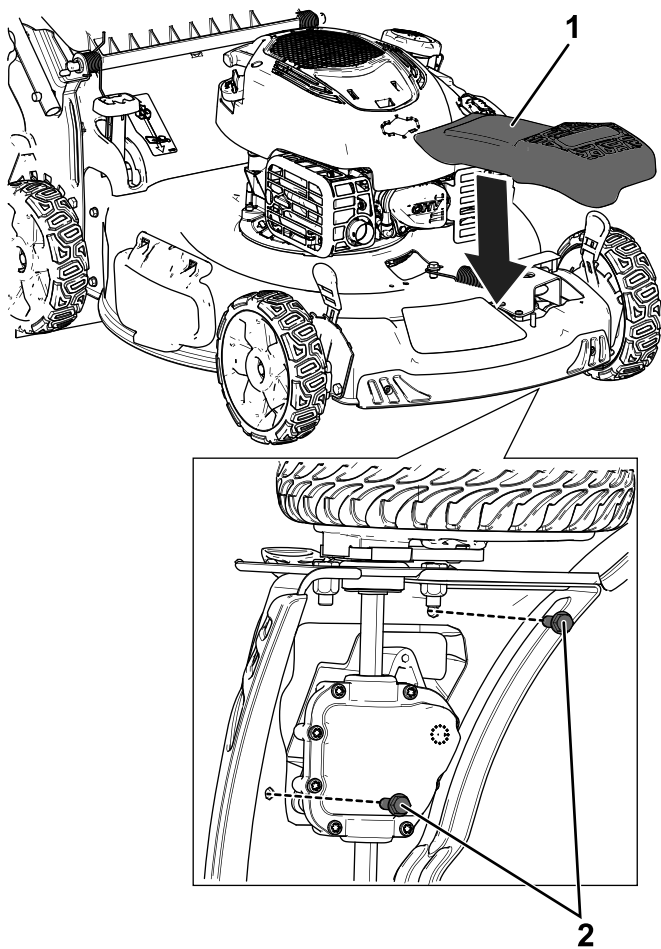

Figure 8
3. Install the blade drive and route both belts around it as shown in Figure 8.